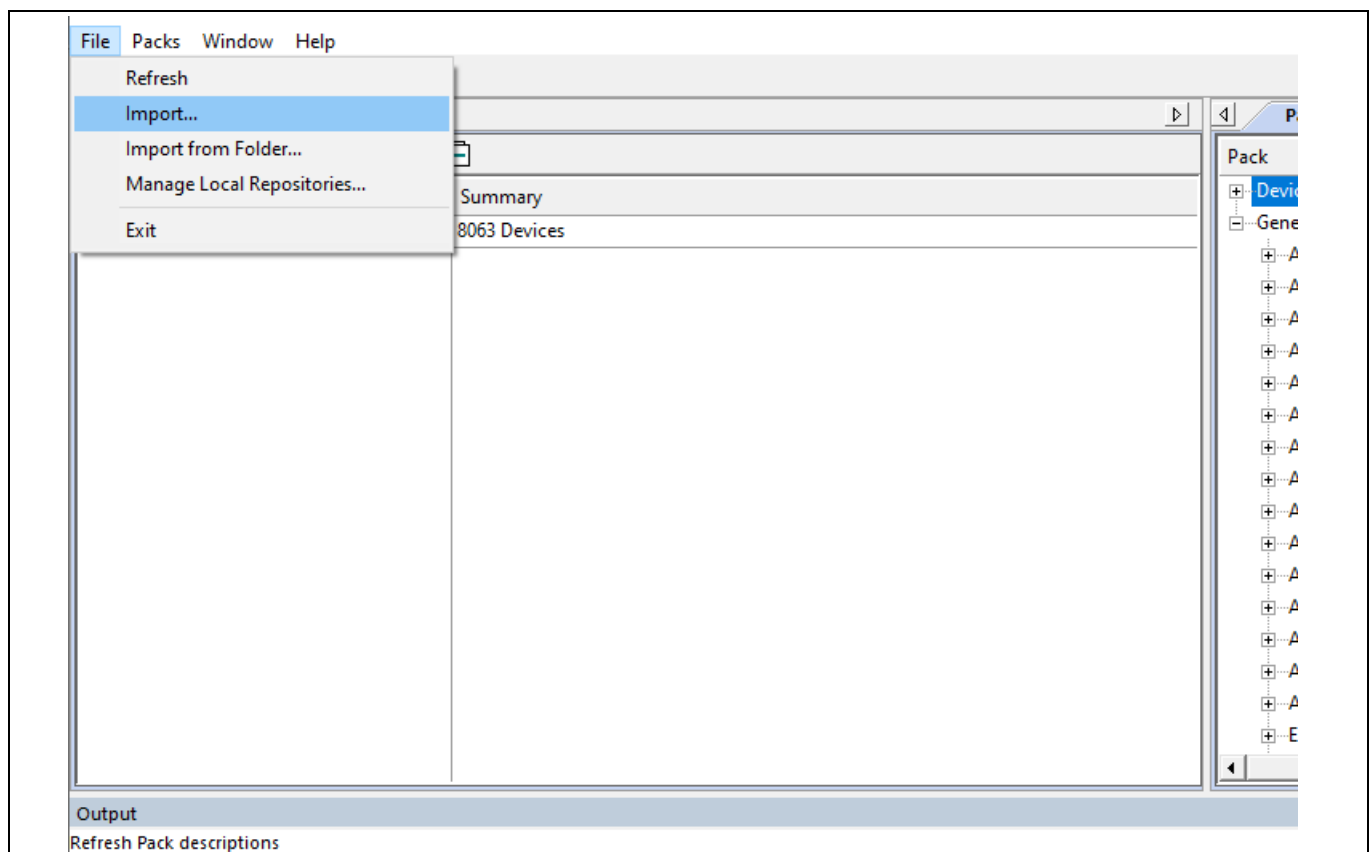

Figure 3 Keil μ Vision® IDE Pack Installer “Import”
- 3) The standalone pack installer should open in a separate window. Go to “File” → “Import...” and locate the Infineon IMC300A DFP on your local file system as shown in Figure 3.